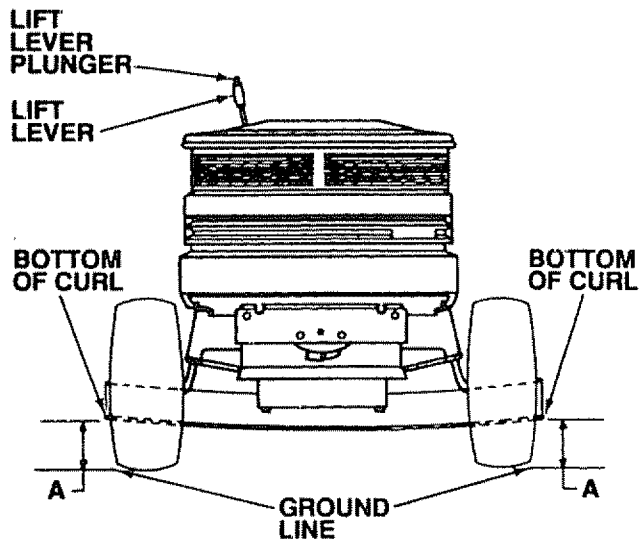

FIGURE 34
- Measure height from bottom of curl to ground line at front of mower. Distance "A" should be the same on both sides (Fig. 34).